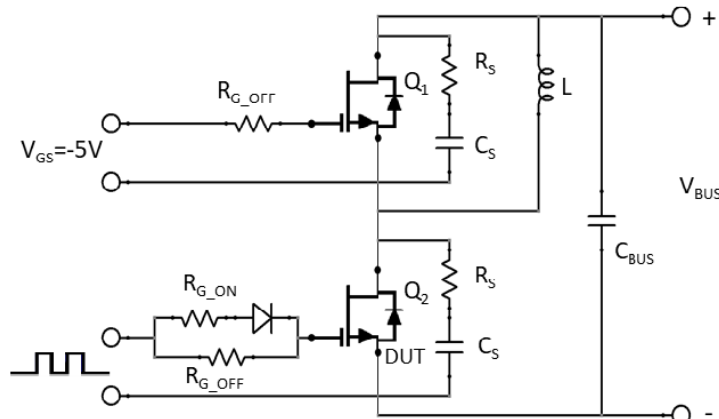

Figure 29. Clamped Inductive Load Switching Test Circuit. An RC Snubber ($R_S = 5$ Ω and $C_S = 150$ pF) is required to Improve the Turn-off Waveforms.
4. The switching performance are evaluated with a RC snubber circuit as shown in Figure 29.